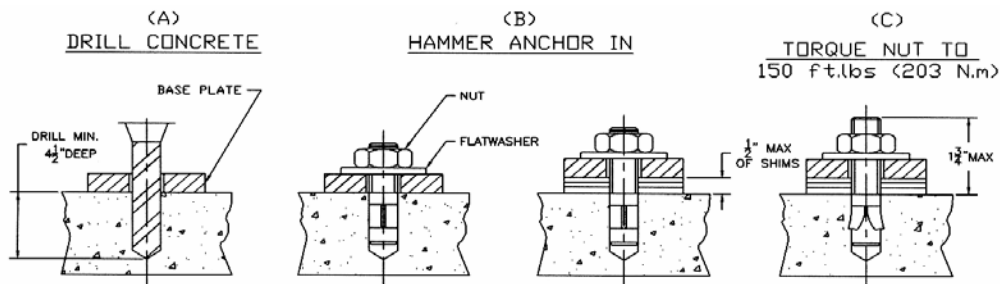

Figure 9 – Anchor Bolts
3. Using a rotary hammer drill with a 3/4" masonry drill bit, drill holes in the floor on the high side column using the tower baseplate as a template. Make sure that the 3/4" masonry drill is in good condition (**Figure 9**).
4. Carefully clean out drilling dust from the anchor holes. Hammer in the anchor bolts (**Figure 9**). Hand tighten all anchor bolts.
6. Torque all anchor bolts to 150 ft-lbs. (203 Nm), continually checking that the column is level as you proceed. If anchor bolts do not tighten to 150 ft-lbs. OR project more than 1 3/4" above the concrete surface (**Figure 9**), the concrete MUST be replaced by an appropriate concrete pad. (*Consult Product Manufacturer / Supplier for further details*).